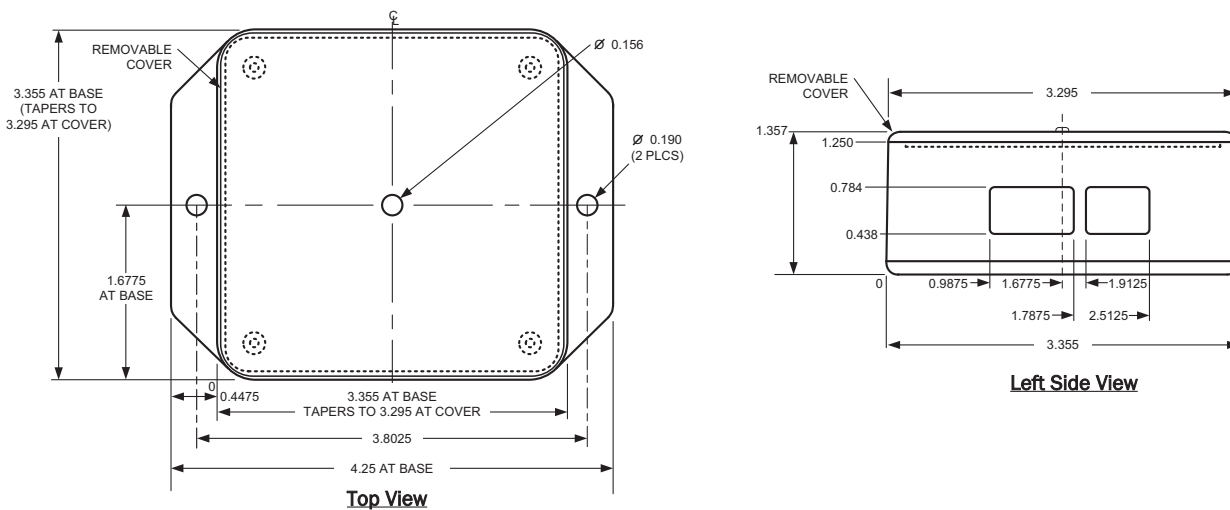

Figure 1. ALRT-100 Mechanical Detail Drawing
Figure 1 provides mechanical details of the ALRT-100.
3. Remove the two wiring connectors from the ALRT-100 terminal blocks and mark the two mounting holes located on each of the enclosure side flanges as shown in Figure 1.